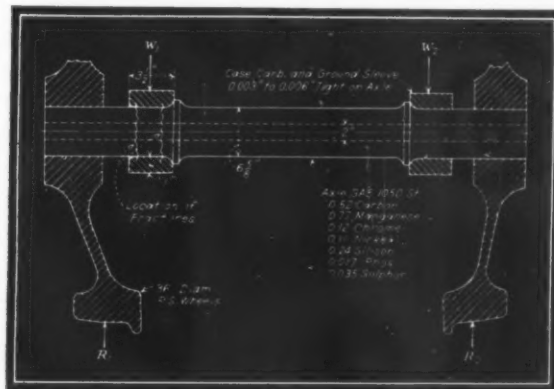

Fig. 8—Sharp change in cross section at collars aggravates high stresses
**SHRINK-FIT COLLAR.** The broken locomotive-truck axle described here was originally investigated in the usual manner by metallurgists. Later it was found necessary, in order to correct the trouble, to alter the design features. The bending moment in the vicinity of the collars, Fig. 8, which were shrunk on to the axles and